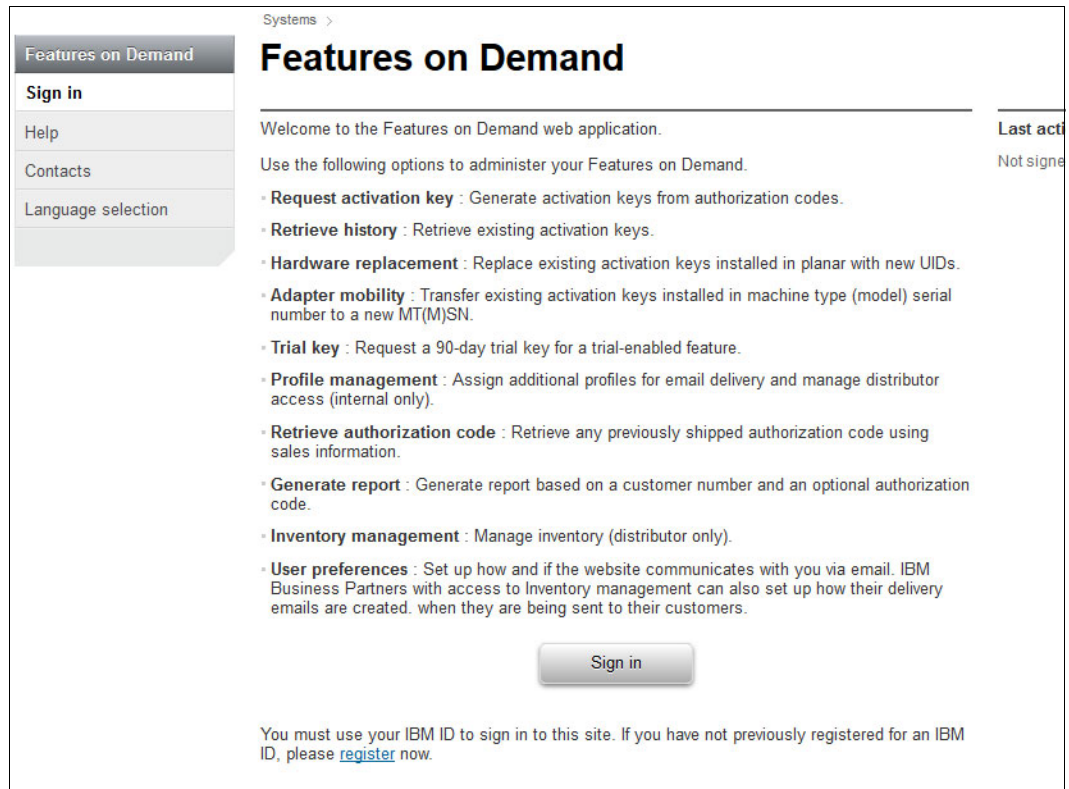

Figure 2-37 Features on Demand sign in page
2. Click **Sign In** on the Features on Demand main page, as shown in Figure 2-37.